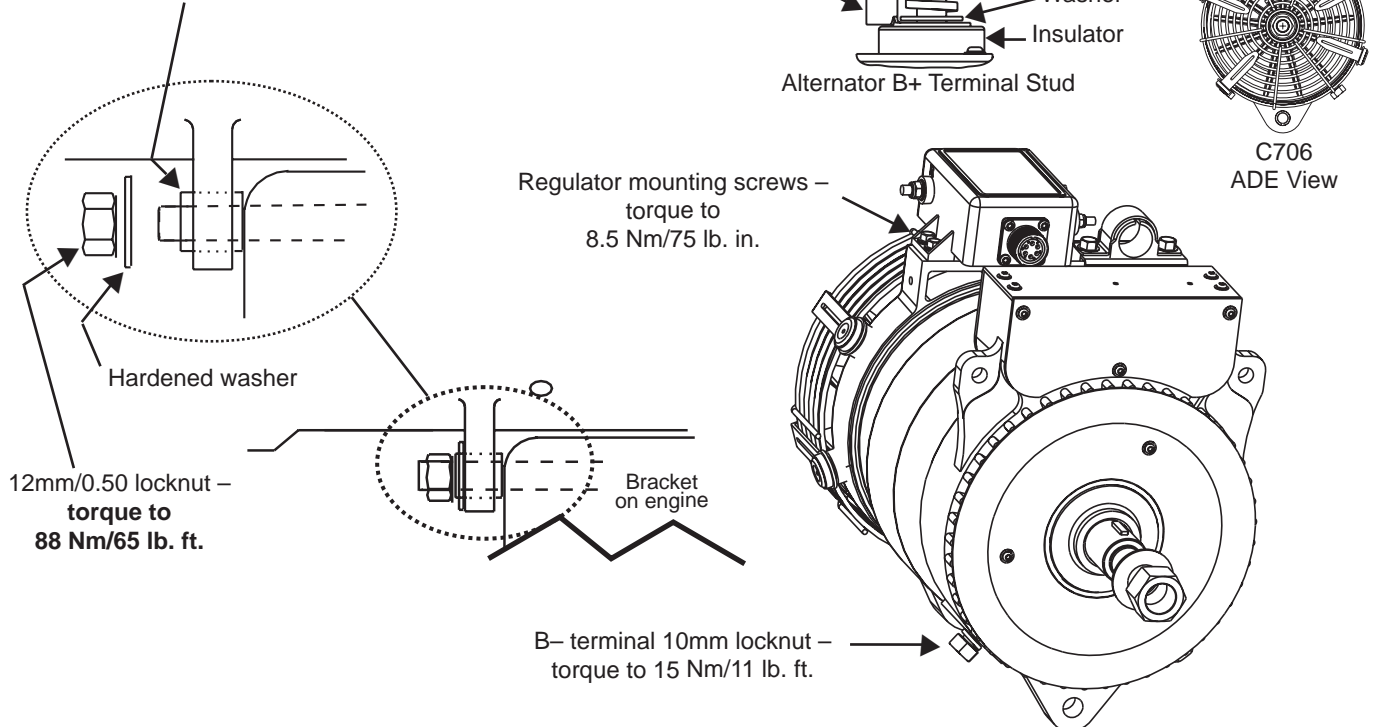

Figure 1 - C706 Alternator Installation Details
1. Install alternator as shown in Figure 1: